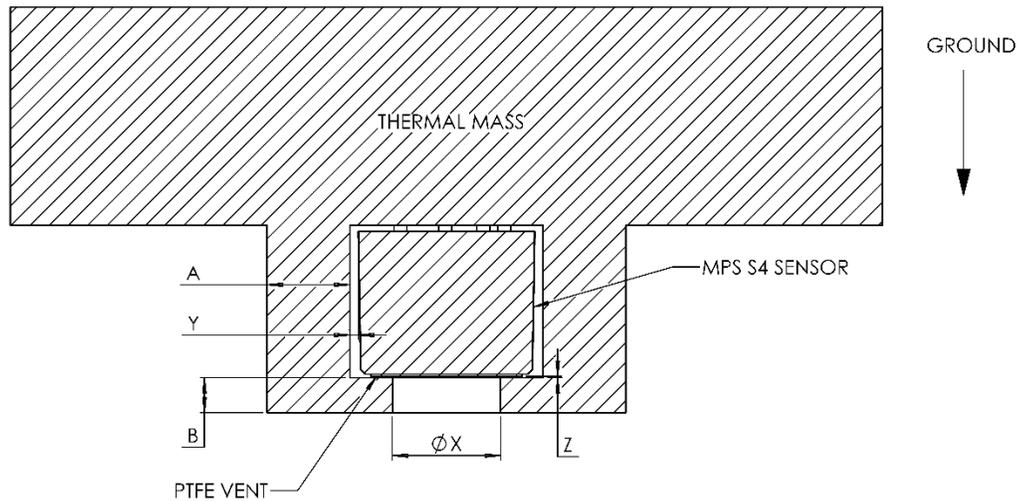

Figure 9: Reference enclosure design.
- The sensor should be installed so as to face downward inside a cylindrical enclosure with an air inlet facing the ground. The recommended general installation is shown in Figure 9. The inlet diameter,  $X$ , should be sized at approximately 14 mm, and the air gap,  $Z$ , should be less than 2 mm. Radial spacing,  $Y$ , between the sensor and the enclosure should be 1-3 mm. (Note the  $\sim 1^\circ$  draft angle of the "Series 4" type MPS sensor package.) The wall thickness,  $A$ , should be 8-10 mm, and  $B$  should be approximately 4 mm.